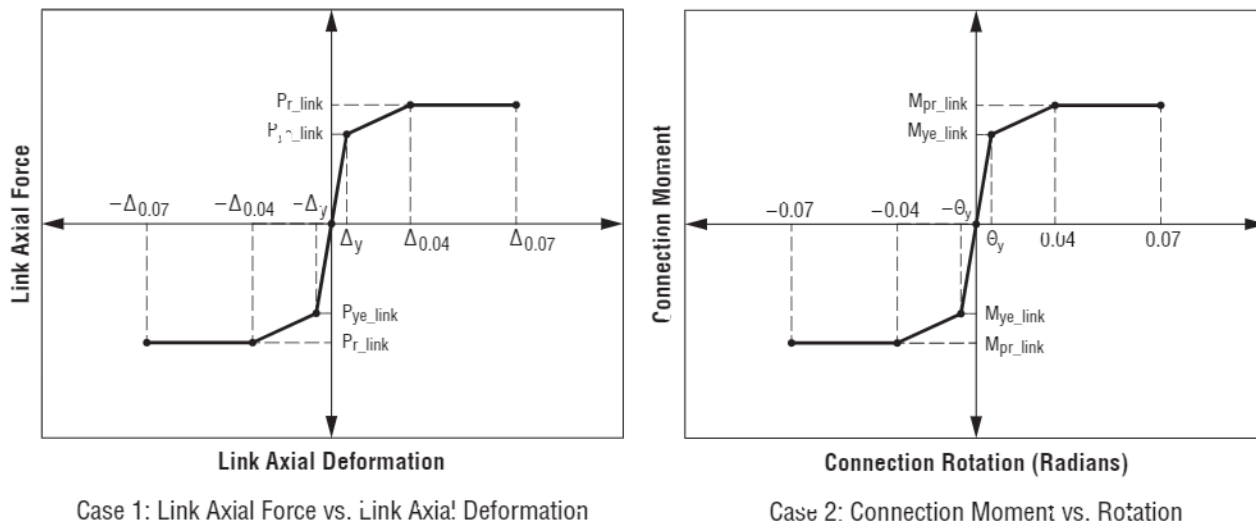

Figure D1.2 — Simpson Strong-Tie® Yield-Link Modeling Parameters Connection Moment
Because the Strong Frame SMF connection is considered a partially restrained (PR) connection, modeling and analysis is more involved than for a traditional moment frame connection. When designing and analyzing PR connections, the strength and stiffness of the connection need to be considered. A detailed step-by-step procedure to calculate the axial Yield-Link® or rotational Yield-Link parameters for Strong-Frame moment connection is documented in Chapter 12 of the AISC 358-16. Once the PR connection is modeled, frame drift can be calculated similar to the traditional fully restrained (FR) connections. For pushover or nonlinear time history analysis, a full nonlinear axial Yield-Link or rotational Yield-Link model is required (see Figure D1.2). Design tools for calculating the Yield-Link parameters can be obtained from Simpson Strong-Tie at [strongtie.com](http://strongtie.com).